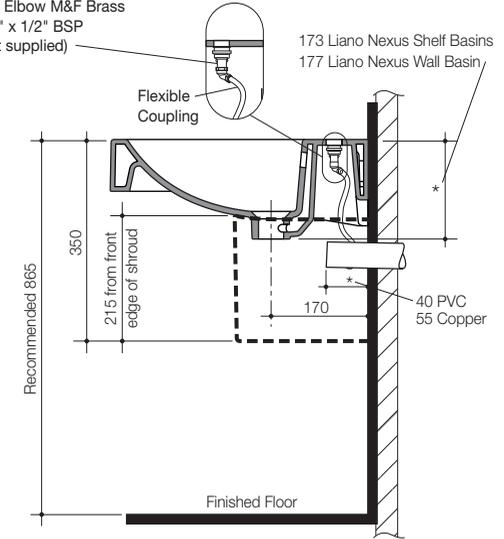
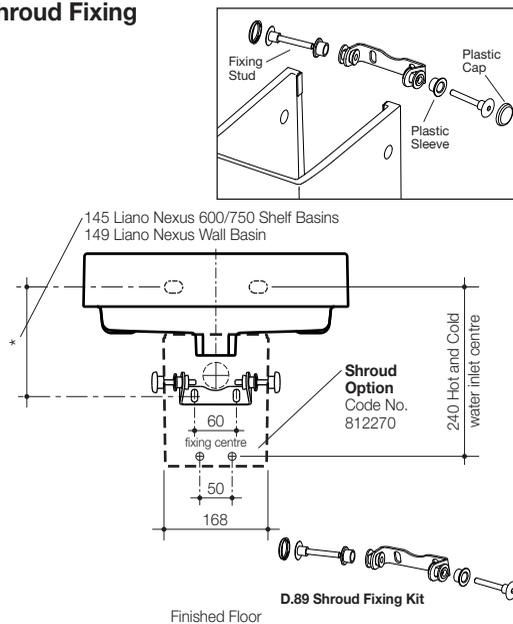

Fig. 2
Fig. 3
- 1- Fix the Concealed Fixing Bracket (supplied) to the wall, as detailed in **Fig. 3**.
- 2- Ensure basin is secured and plumbing is connected. Water inlet connections must be positioned as shown in **Fig. 3**. The brass elbow shown in **Fig. 2** to be used only on 3 Tap hole basin (not supplied).